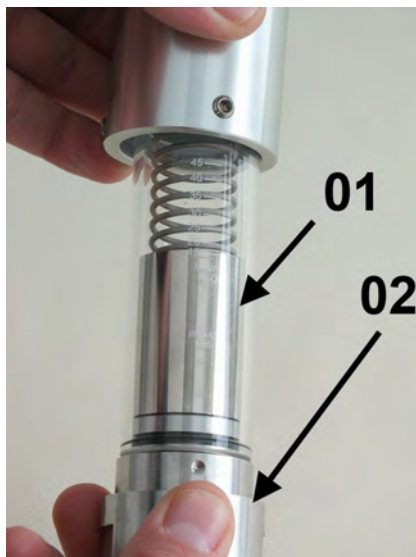

Fig. 39: Remove inner section
4. ➤ Carefully remove the inner section (Fig. 39/01) of the device (sight glass, spring and float with magnets) as a unit, together with the process connection (inlet) (Fig. 39/02) from the device housing.